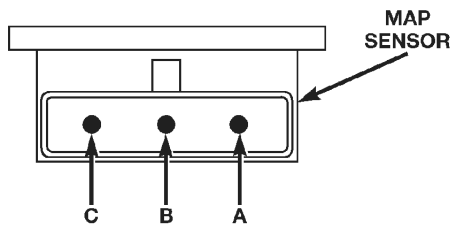

Fig. 29 MAP Sensor Connector Terminals—Typical
(2) Test MAP sensor output voltage at MAP sensor connector between terminals A and B (Fig. 29). With ignition switch ON and engine OFF, output voltage should be 4-to-5 volts. The voltage should drop to 1.5-to-2.1 volts with a hot, neutral idle speed condition.
(3) Test Powertrain Control Module (PCM) cavity A-27 for same voltage described above to verify wire harness condition. Repair as necessary.
(4) Test MAP sensor supply voltage at sensor connector between terminals A and C (Fig. 29) with ignition ON. The voltage should be approximately 5 volts (± 0.5V). Five volts (± 0.5V) should also be at cavity A-17 of the PCM wire harness connector. Repair or replace wire harness as necessary.
(5) Test the MAP sensor ground circuit at sensor connector terminal—A (Fig. 29) and PCM connector A-4. Repair wire harness if necessary.